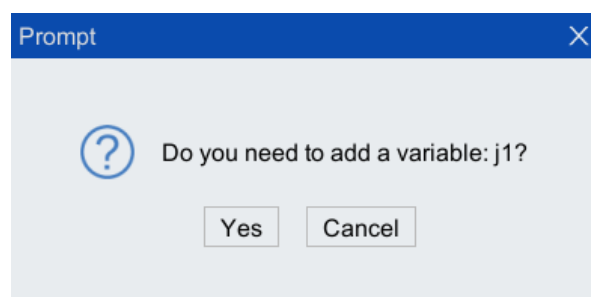

Figure 5-15 "Are you sure to create the variable j1" dialog box
Step3. Click <Yes> button shown in Figure 5-15 to pop up "Are you need to create the variable j1" dialog box, and click <Yes> button.